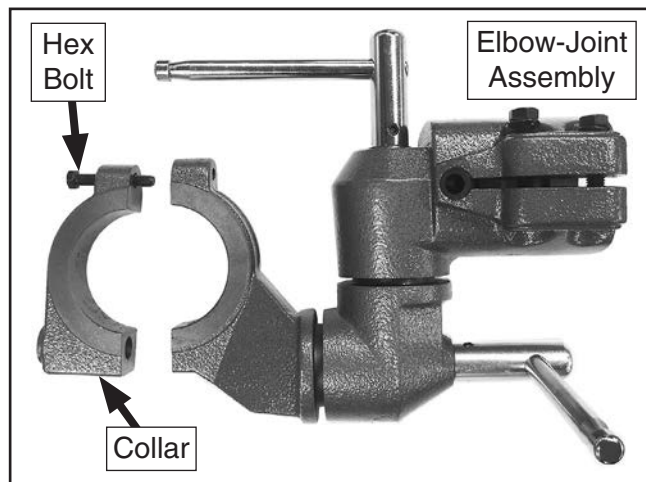

Figure 6. Collar separated from elbow-joint assembly.
1. Remove hex bolt securing collar to elbow-joint assembly (see **Figure 6**).